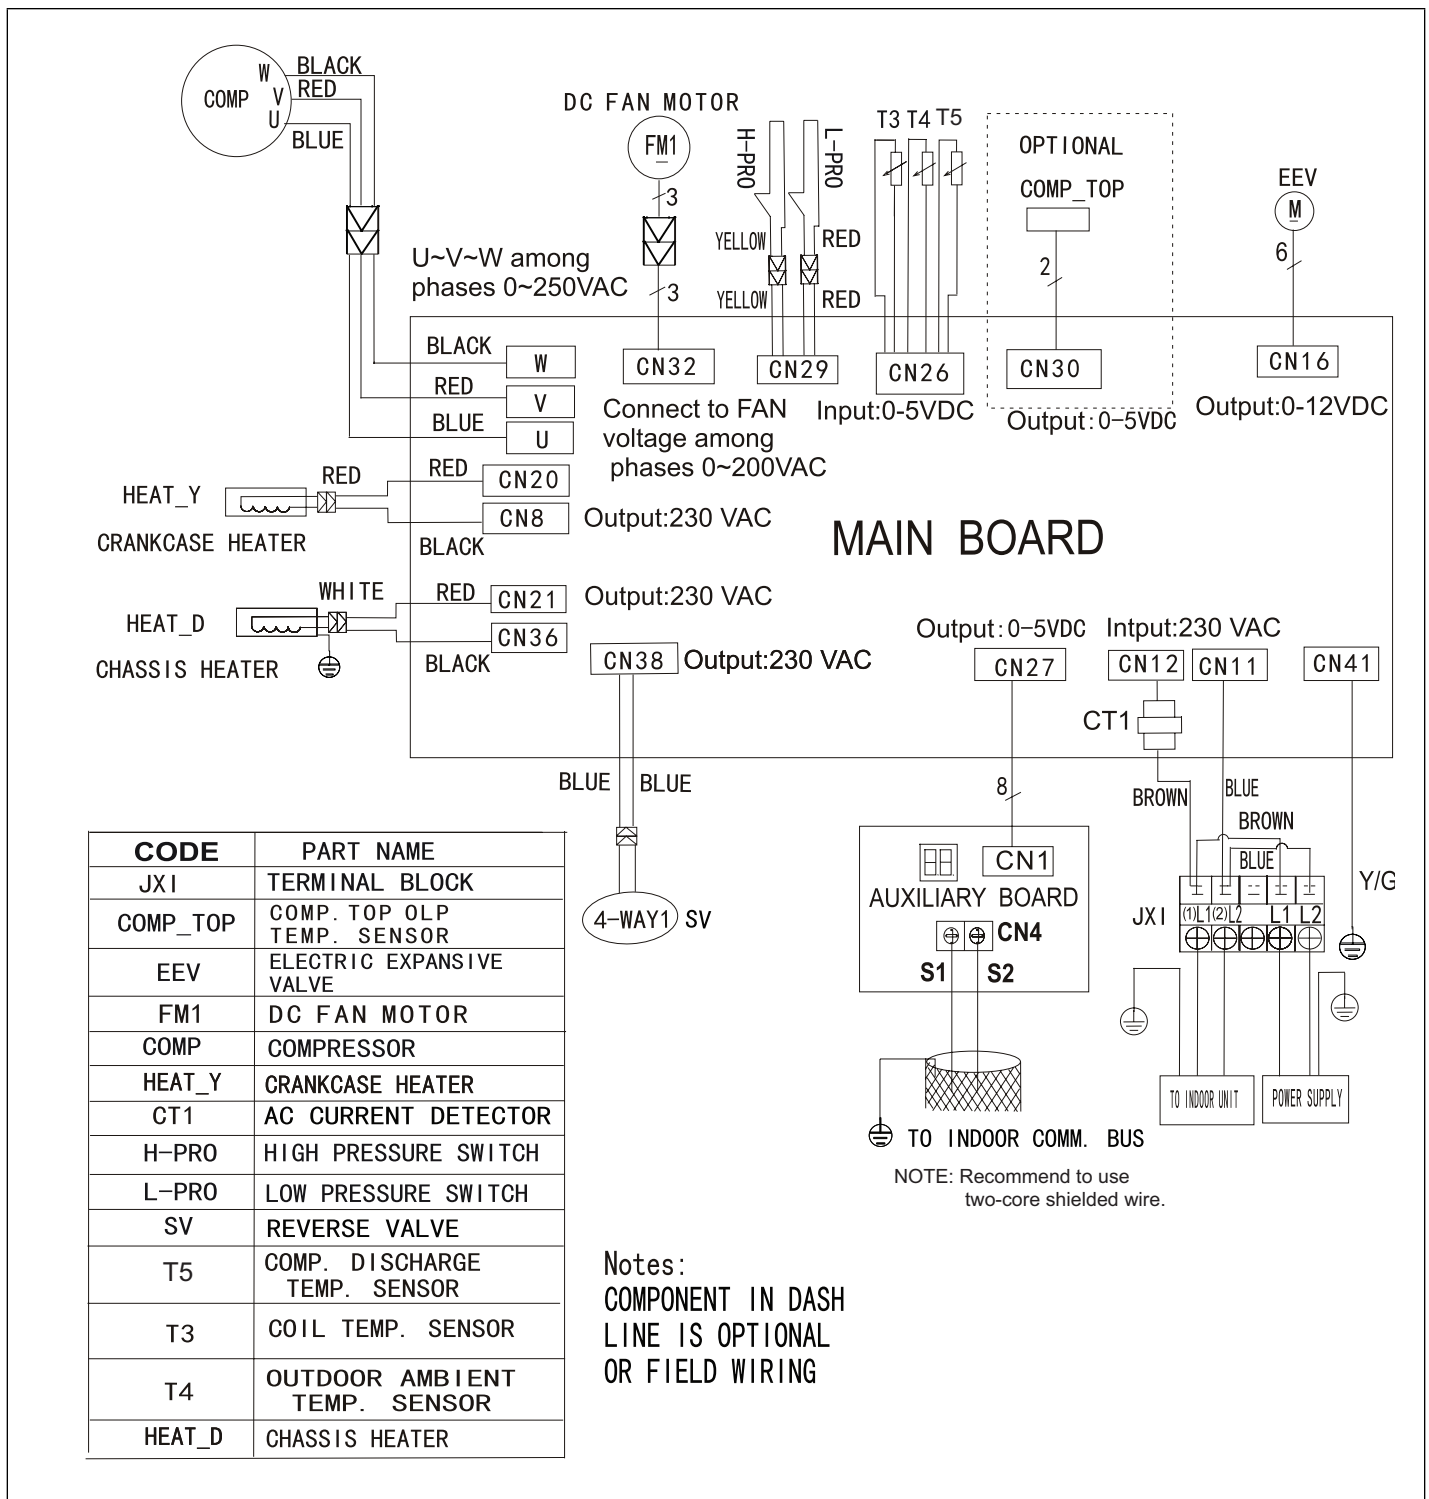

Figure 27. 3PC036 Outdoor Unit Wiring Diagram
- See "Figure 27. 3PC036 Outdoor Unit Wiring Diagram" on page 17 for communication bus connections between indoor and outdoor units.